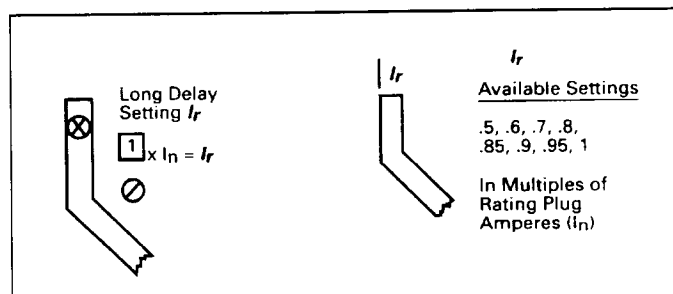

Fig. 8.1 Long Delay Current Settings
ber of settings that must be made is determined by the protection supplied as illustrated in Figs. 8.1 through 8.7. Each setting is made with a rotary switch, using a small screwdriver. The selected setting for each adjustment appears in its respective rectangular viewing window as illustrated in Fig. 1.
The available settings, along with the illustrated effect of changing the settings are given in Figs. 8.1 through 8.7.
There are eight (8) available Long Delay “Pick-up” Current settings, as illustrated in Fig. 8.1. Each setting, called “ $I_r$ ”, is expressed as a multiple (ranging from .5 to 1) of the rating plug current ( $I_n$ ).